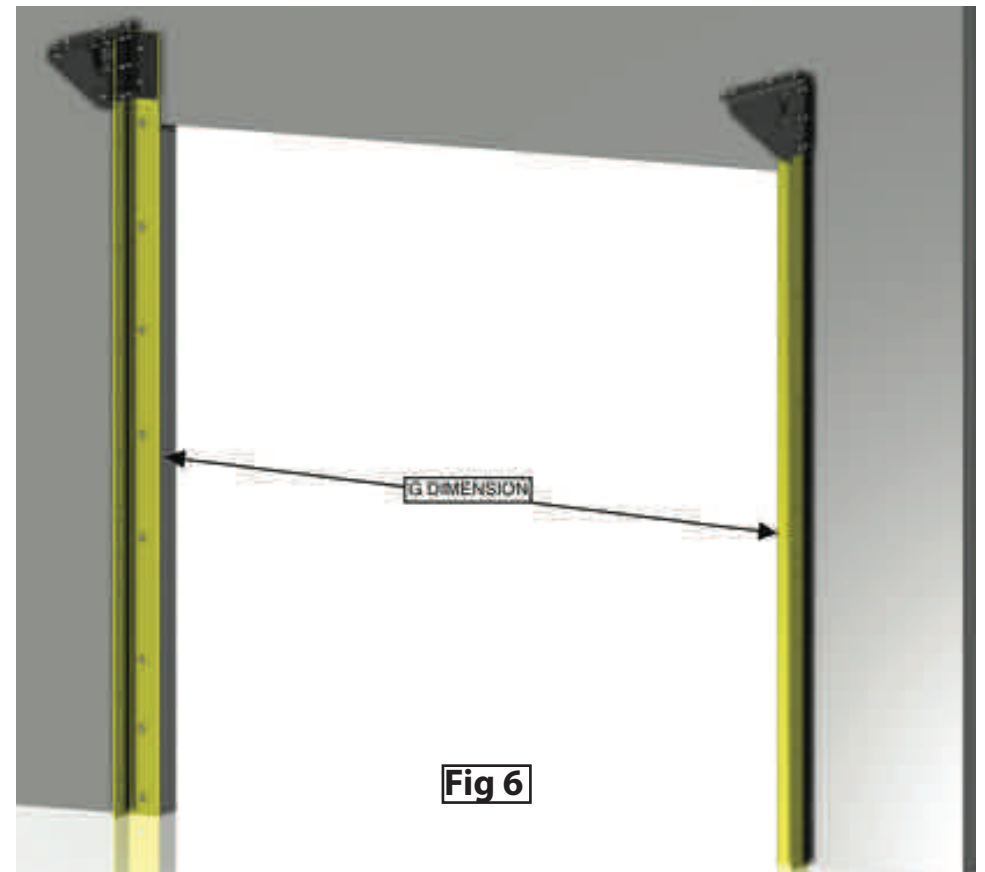

Fig 6
- Use clamps to mount the wall guides to the wall as shown in FIG 6.